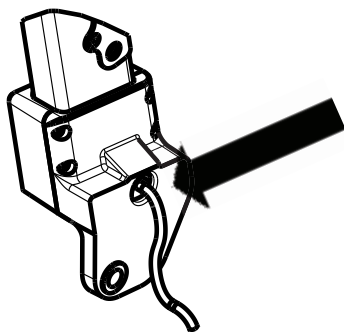

Figure 32 –
**Note** - Route cables through the holes on the inner pivot caps (Figure 32).